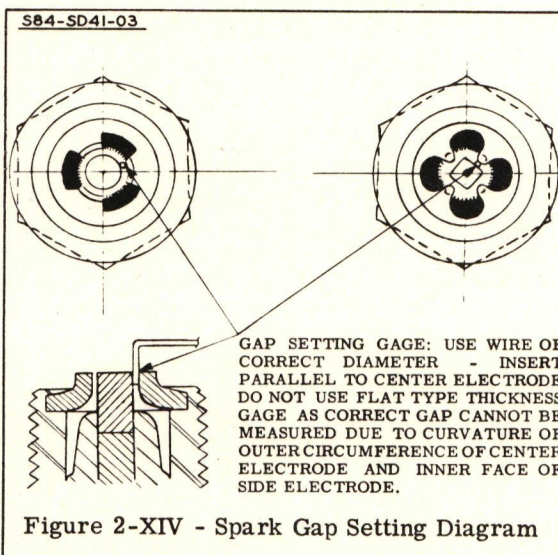

Figure 2-XIV - Spark Gap Setting Diagram
(1) The spark gap of all new aircraft plugs will be initially set at .012 inch + .002 inch - .001 inch by the manufacturer. Whenever the gap is found to exceed .020 inch, the electrodes on the ceramic-type plugs will be regapped; or, if a mica type, the plugs will be regapped and/or reconditioned as the case may require. Normally plugs will not be removed for the sole purpose of checking the gaps, even if it is considered likely that the gap exceeds .020 inch, except on airplanes which are operated at high altitudes. The gaps on plugs installed in these airplanes should be checked and reset every 25 hours pending availability of spark plugs with less electrode erosion. The maximum of .020 inch is applicable to plugs removed for routine inspection or for other reasons. When the gap is reset, it shall in all cases be adjusted to .012 inch + .002 - .001. An occasional plug with a gap setting as low as .008 inch will be satisfactory. This should not be construed to mean that a setting of less than .011 inch is desirable.
(2) Suitable diameter of hard steel wire will be used to measure the gap clearance as shown in fig. 2-XIV.
(3) Under no conditions should the side electrode be reset when a thickness gage is between this part and the center electrode. Such methods will invariably damage the core insulation and any plugs thus adjusted through error should be disposed of in accordance with paragraph 5.